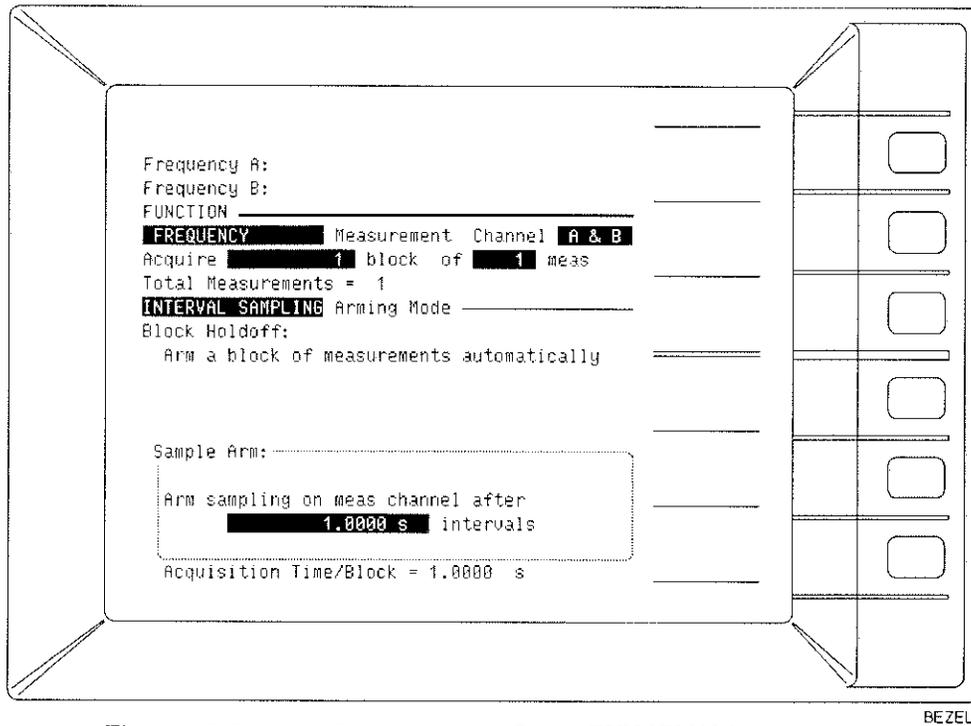

Figure 2-9. Dynamic Input/Operating Range FUNCTION Screen Display
- I. Press “1” on the Data Entry numeric keypad. Press ENTER key. The “intervals” field should now read “1.0000 s”. (The HP 5371A front-panel CRT display should appear as in *Figure 2-9*.)